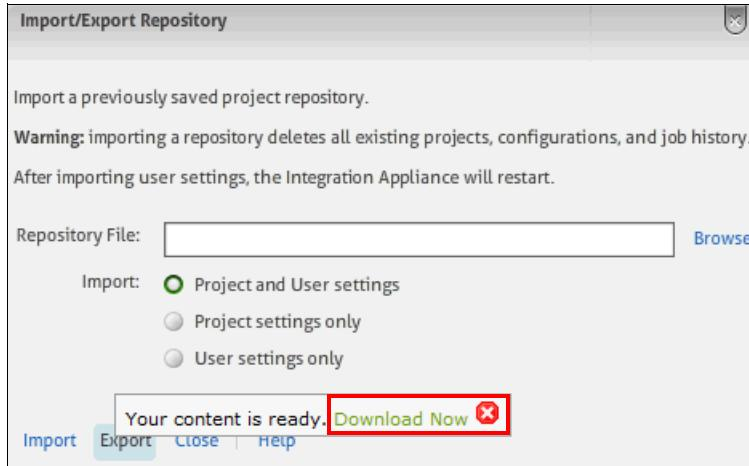

Figure 6-4 Export repository
- Click **Export**, and a message displays, as shown in Figure 6-4. In this message, click **Download Now**.